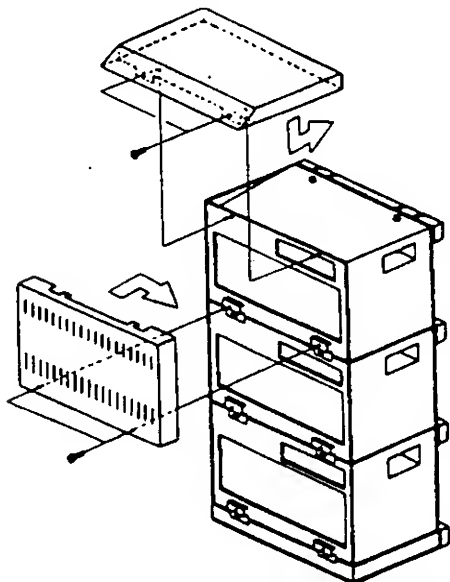

Figure 240-4 Installing Top Panel and Front Panel (s)
**NOTE:** All removed front panels should be reinstalled by securing with the screws removed in step B after the required ETUs are installed and the system is tested. (Refer to Figure 240-4).